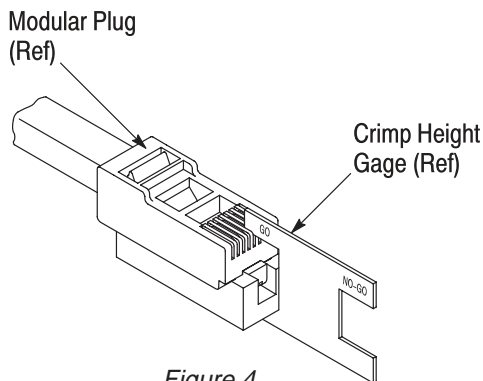

Figure 4
**NOTE** *Crimp Height Gage 904170-1 is to be used as a quick verification of acceptable crimp height as shown in Figure 4. Refer to Instruction Sheet 408-4389 for instructions on using the gage.*